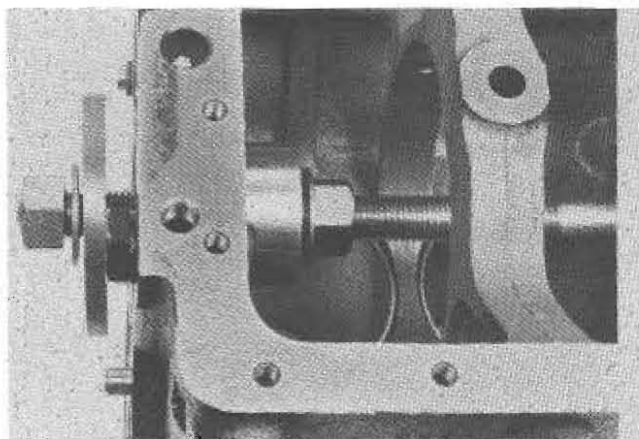

Fig. 3-15 Insertion & Extraction Tool Assembled in Block for Gear End Main Bearing Insertion
8. To install the gear end (front) main bearing in the cylinder block, assemble the special insertion/extraction tool in the cylinder block as shown in Fig. 3-15.